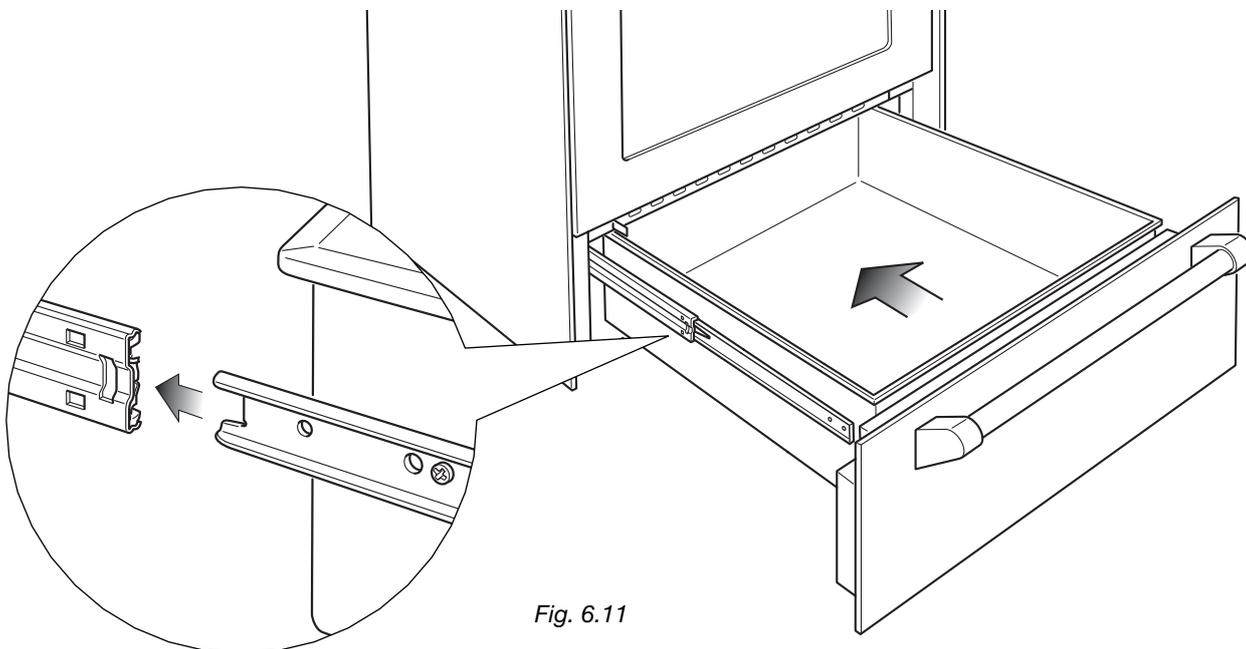

Fig. 6.11
**FITTING THE WARMER DRAWER** (fig. 6.11)
1. Insert the drawer guides into the range guides (fig. 6.11)